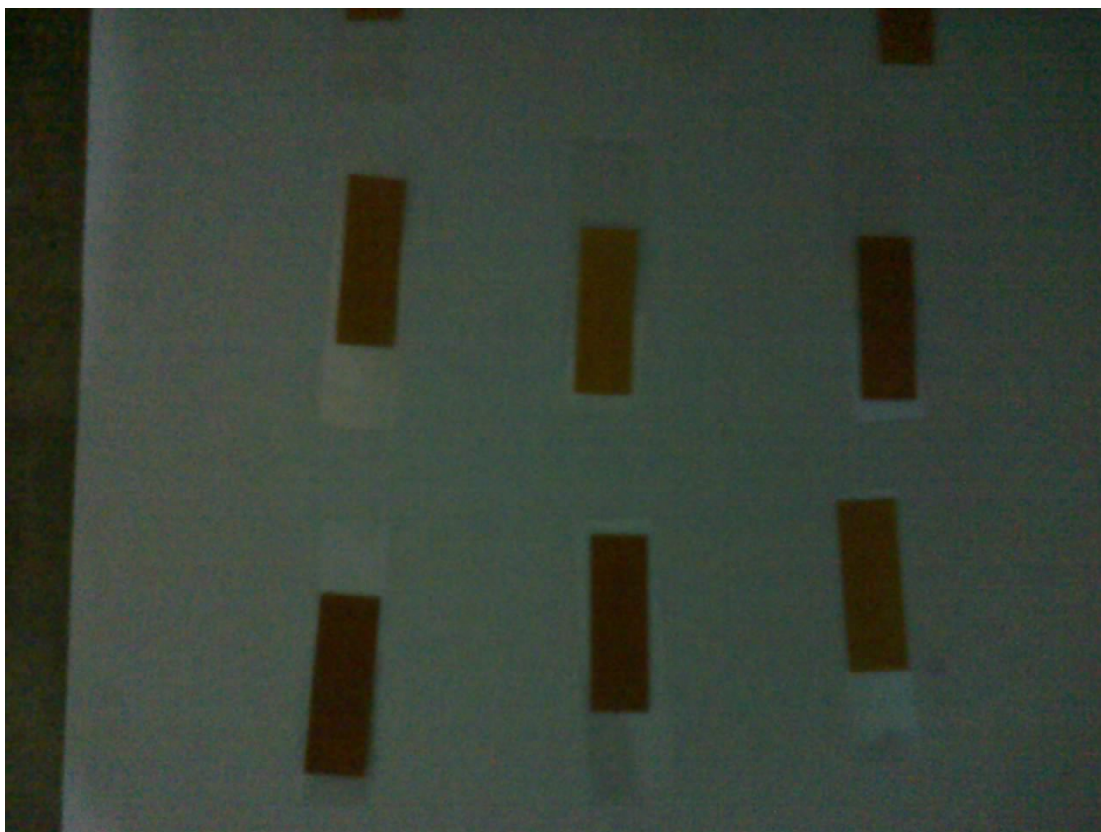

Figure 4. Picrate papers left to dry on A4 size paper and still attached on their plastic strip
- Once you open the bottles, carefully remove the picrate papers, still attached to the plastic strip, and place them on the plastic cap or on A4 sized paper (Figs. 4 and 5). This is done to allow the picrate papers to first dry-up. Picrate papers become a bit moist during incubation and must not be touched or made to brush against anything before they dry (and avoid directly touching them even when they are dry). Use the plastic strips to hold the picrate papers.